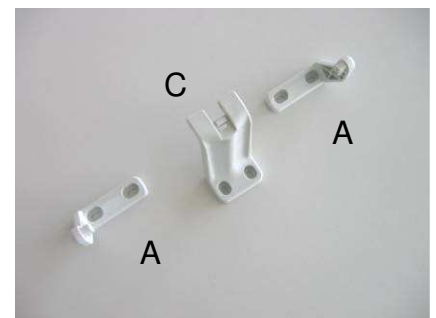

Figure 8
- c) Use brackets "A" and hinge "C" (Fig.8).